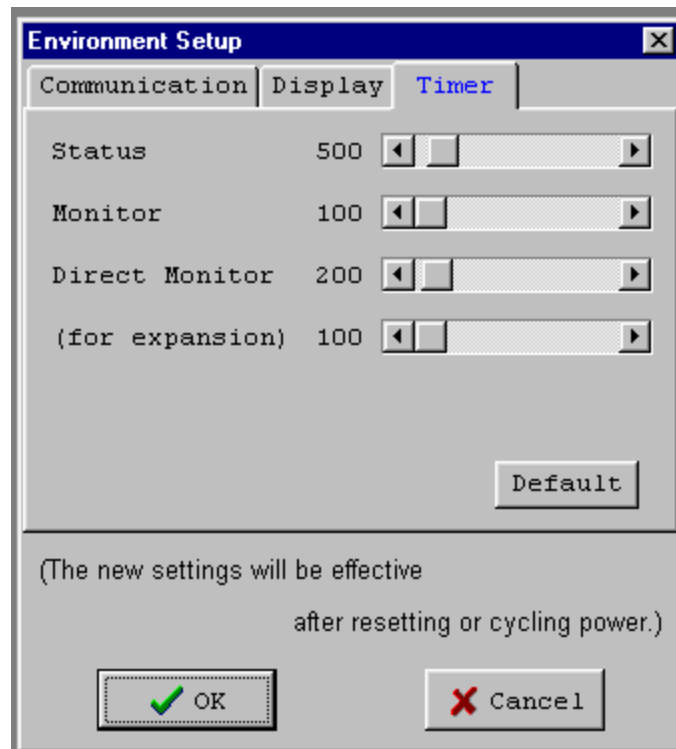

Figure 9.7.3 Environment Setting – Timer
- d. Click the **Timer** tab to display the window shown in Figure 9.7.3.